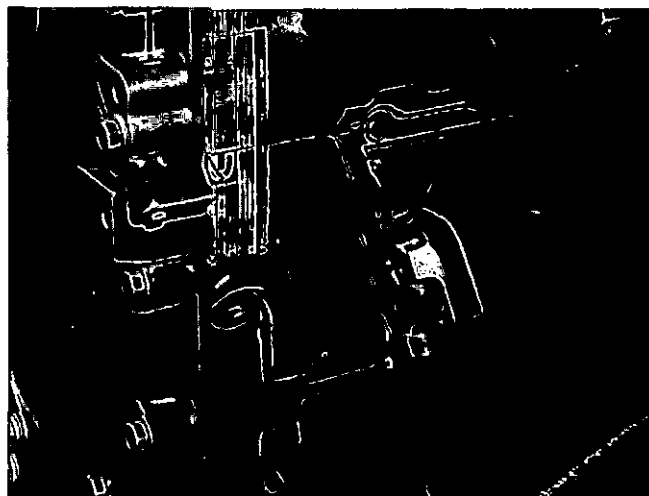

Fig. 0-43. Remove The Oil Pump.
3. Remove the oil pump from the gear case, Fig. 0-43. Discard the gasket.